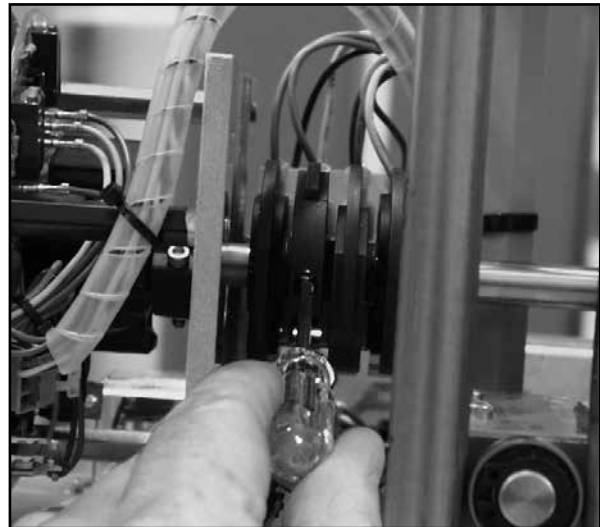

Figure 5
2. Use the electric Handswitch to drive the control shaft so that the EXT switch cam is accessible. Using a 7/64" hex wrench, loosen the screw so that the cam is just snug to the shaft. See Figure 5, page 19.